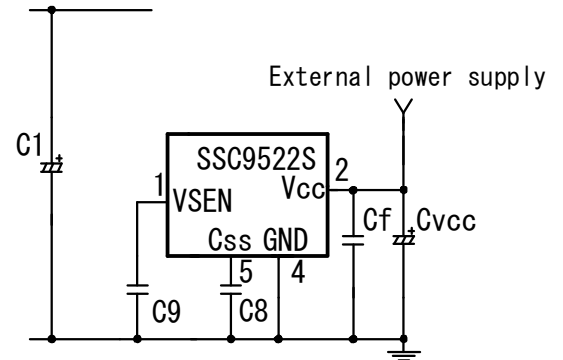

Figure 7-6 V_{CC} peripheral circuit without brown-in/brown-out function
- In Figure 7-6, VSEN terminal voltage is charged by the internal circuit after $V_{CC(ON)}= 11.8V(TYP)$, the rising time, t_{ST2} , to $V_{SEN(ON)}= 1.42V(TYP)$ is added to t_{ST1} .